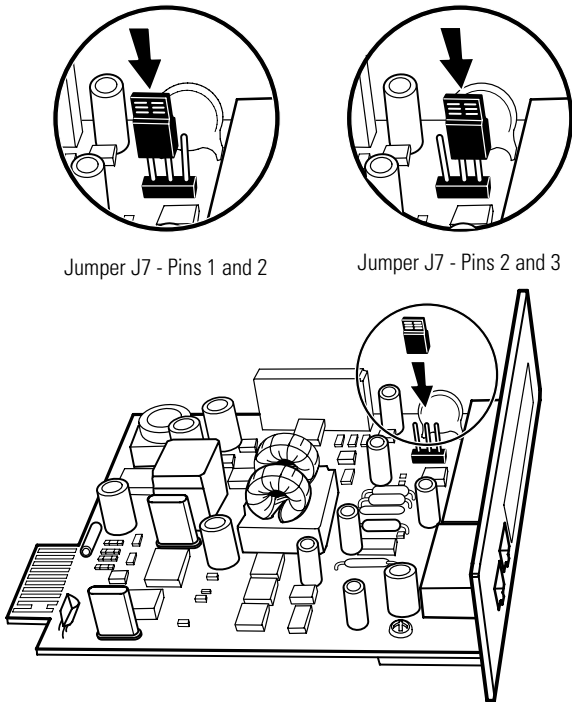

Figure 42. Setting the CAN Bridge Card Jumper J7 (Side View)
- 5. Set the jumper pins on the Powerware Hot Sync CAN Bridge Card according to the parallel configuration (see Figure 42):